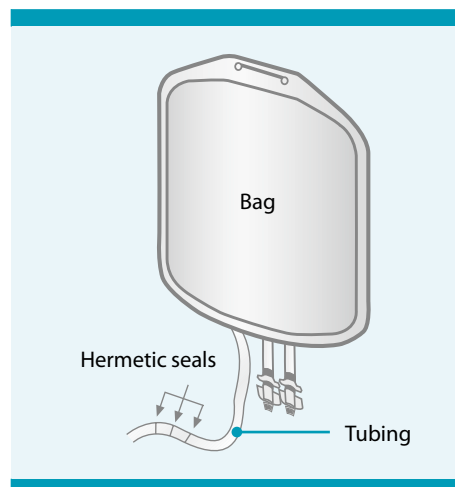

Figure 7.1: Sealing a bag.
6. Seal off the tubing and separate bags, leaving at least 15 cm of tubing on the Cell Preparation Bag for further connections (see Figure 7.1). Use the heat sealer to produce three adjacent seals in the tubing. Make sure the seals are thoroughly established. Sever at the center seal. Keep the original leukapheresis/cellular starting bag until the separation and final analysis of all cells have been accomplished.